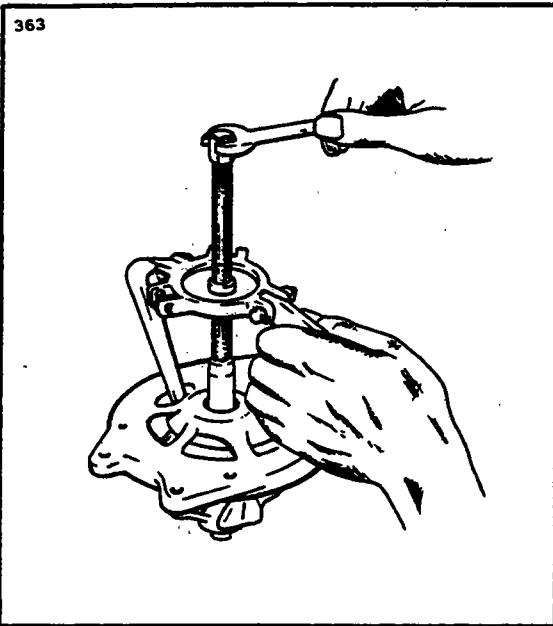
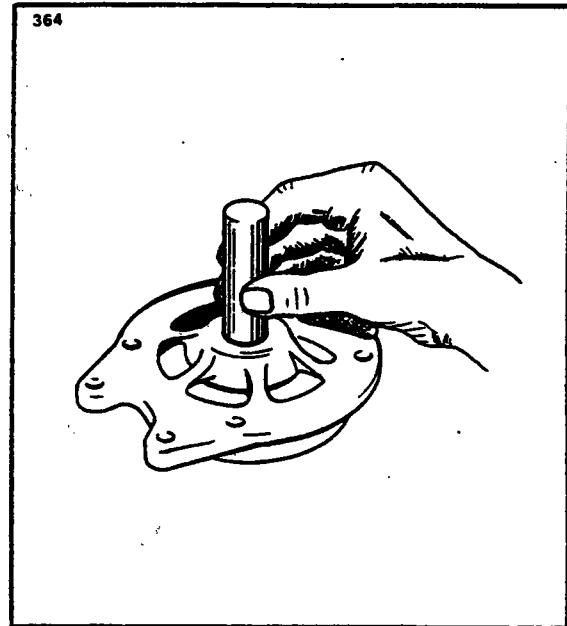

Figure 11-74. Removal of Drive End Head
Figure 11-75. Removal of End Head Bearing
f. To remove the drive end head from the rotor shaft, use a puller that grips on the bearing retainer plate as shown in Figure 11-74. Do not attempt to remove by supporting the end head and pressing on the shaft, as this may result in distortion of the end head or stripping of the retainer plate screws. Remove the three retainer plate screws and press the bearing out of the end head. (Refer to Figure 11-75.)